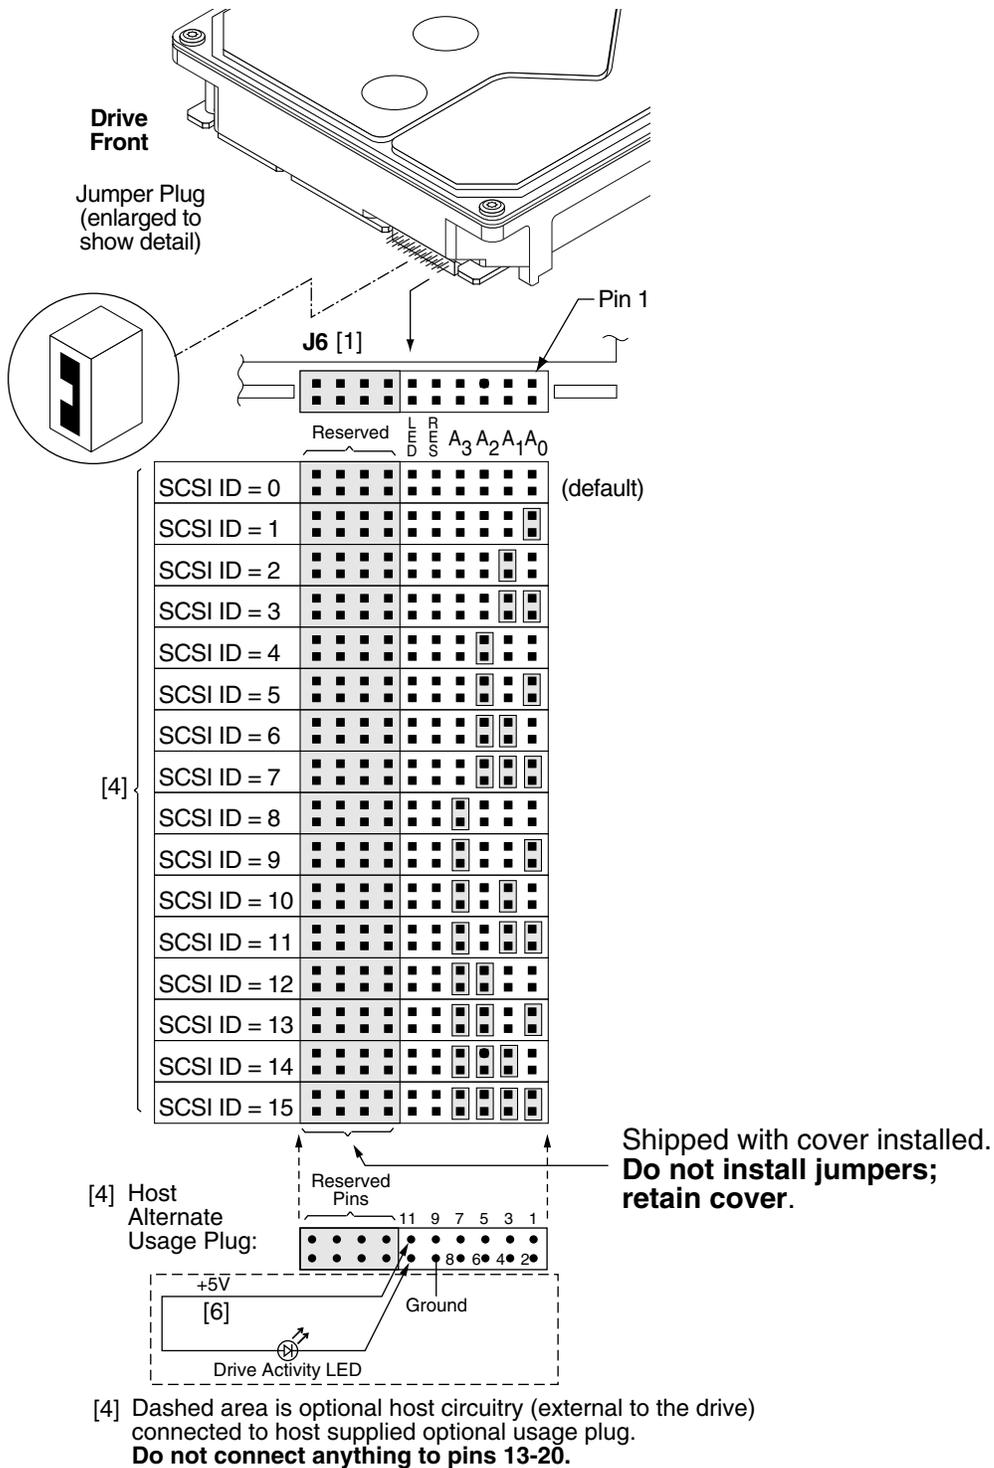
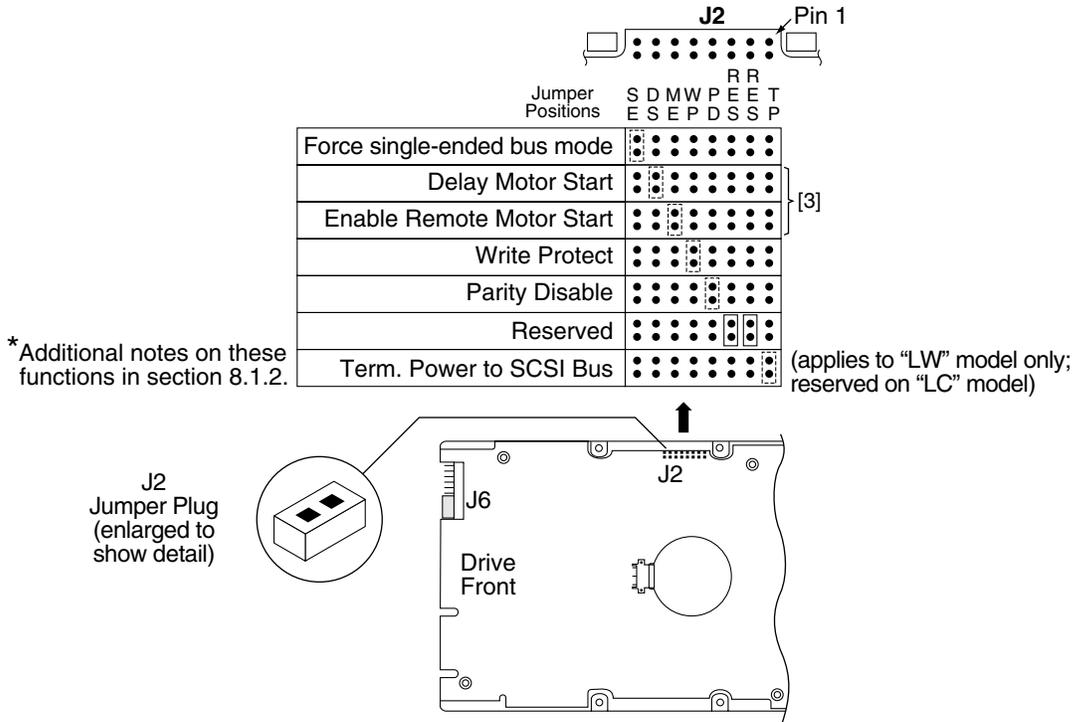

Figure 15. J6 jumper header
Figure 17. J2 option select header
For option jumper locations and definitions refer to Figures 15, 16, and 17. Drive default mode parameters are not normally needed for installation. Refer to Section 9.3.2 for default mode parameters if they are needed.
Figures 15 and 16 show views of the drive ID select jumper connectors. Figure 17 shows the option select jumper connector for all models. Figure 15 shows the drive's J5-Auxiliary jumper connector. Both J5-Auxiliary and J6 have pins for selecting drive ID and for connecting the remote LED cable. Only one or the other should be used, although using both at the same time would not damage the drive. The notes following the figures describe the functions of the various jumper positions on the connectors J2, J5-Auxiliary and J6. Suggested part number for the jumpers used on J2 is Molex 52747-0211 (Seagate part number 77679052). A bag with the two jumper plug types is shipped with the standard OEM drives.
8.1.1 Notes for Figures 15, 16, and 17.